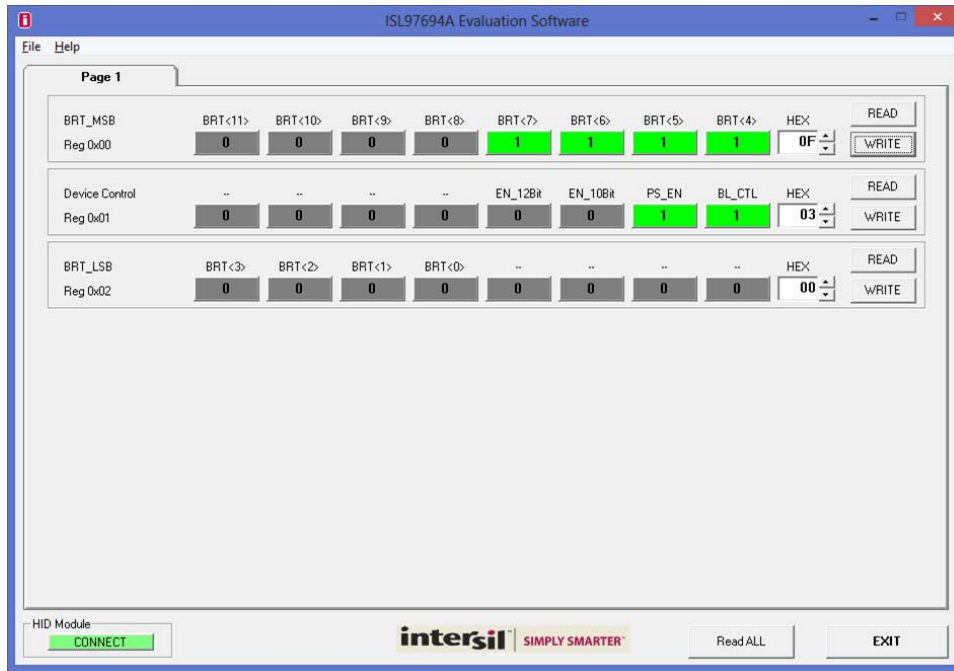

FIGURE 1. ISL97694AIRT-EVZ INTERFACE SOFTWARE
If using the I²C interface, please follow these instructions and see Figures 1, 2 and 7:
3. Once the application window (see Figure 1) appears, click the green “Connect” button then click the “Read All” button beside it. The control fields should be updated with values read from the ISL97694A unit. If an error occurs, confirm the setup and click “Read All” again.